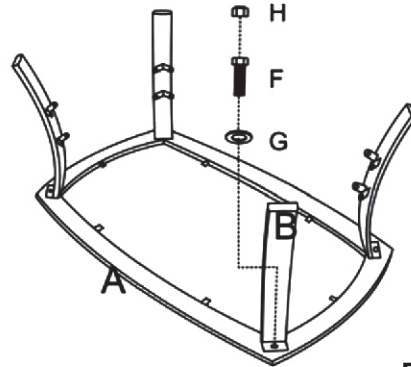

Figure 2
Step 3. Assemble the table legs (B) to the table rim (A) with bolts (F) and washers (G) by using open wrench(I) as shown in figure 2.